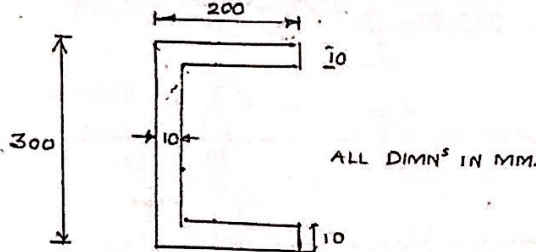

FIG. 1
Find the Shear Centre for a section shown in fig. 1. (5)